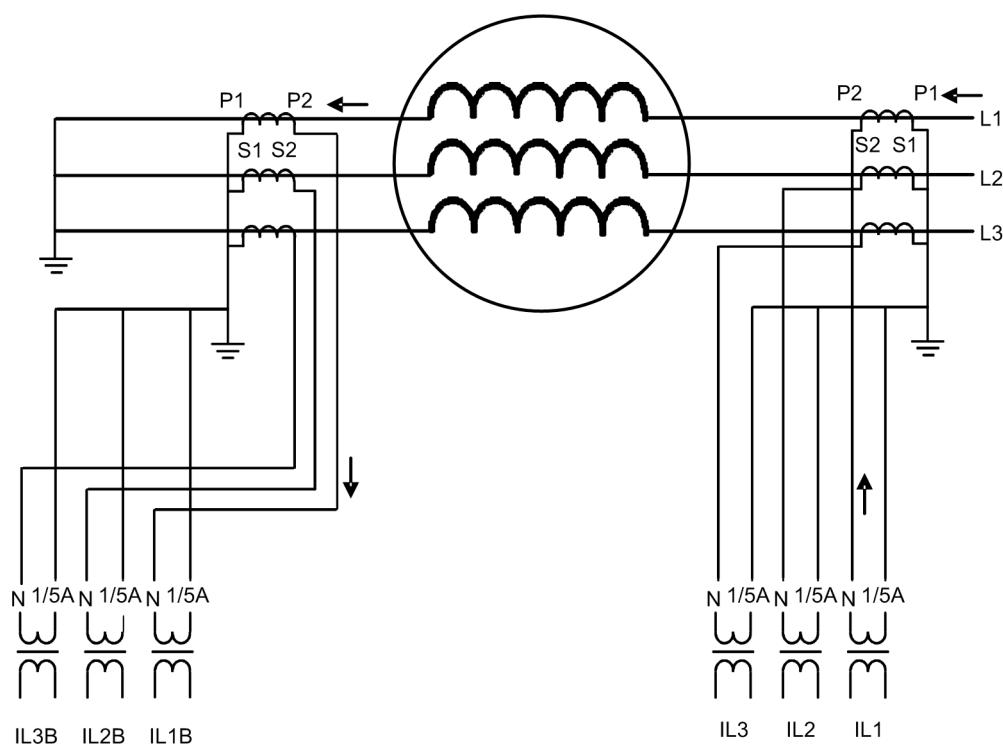
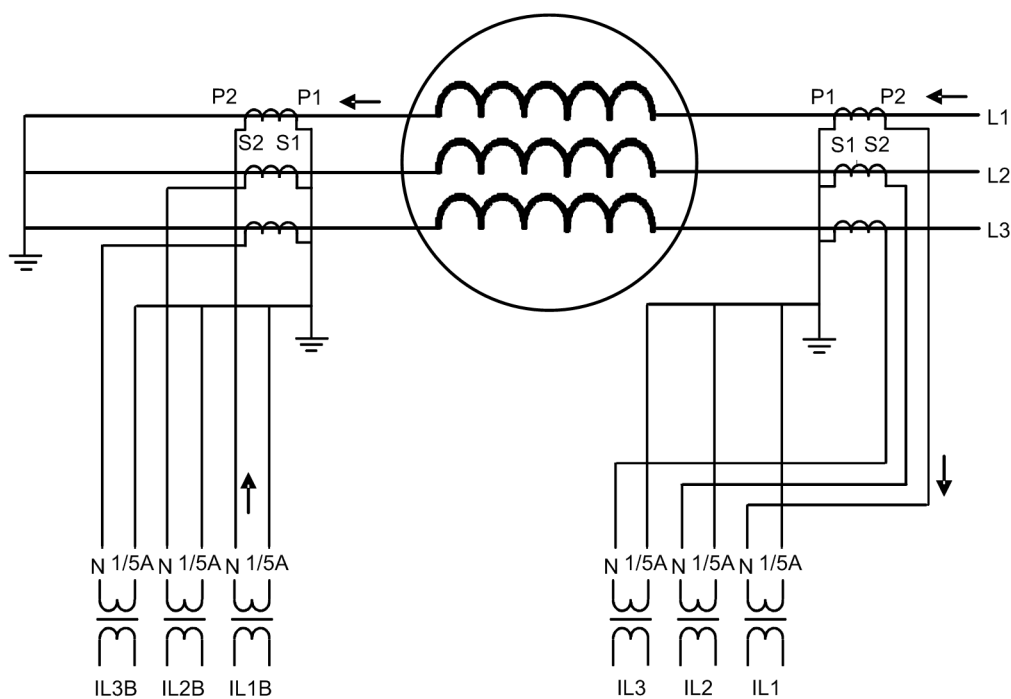

Figure 305: Connection of current transformer of Type 1, example 1
Figure 306: Connection of current transformer of Type 1, example 2
- If the positive directions of the winding 1 and winding 2 protection relay currents are opposite, the *CT connection type* is of "Type 1". The connection examples of "Type 1" are as shown in figures Figure 305 and Figure 306.